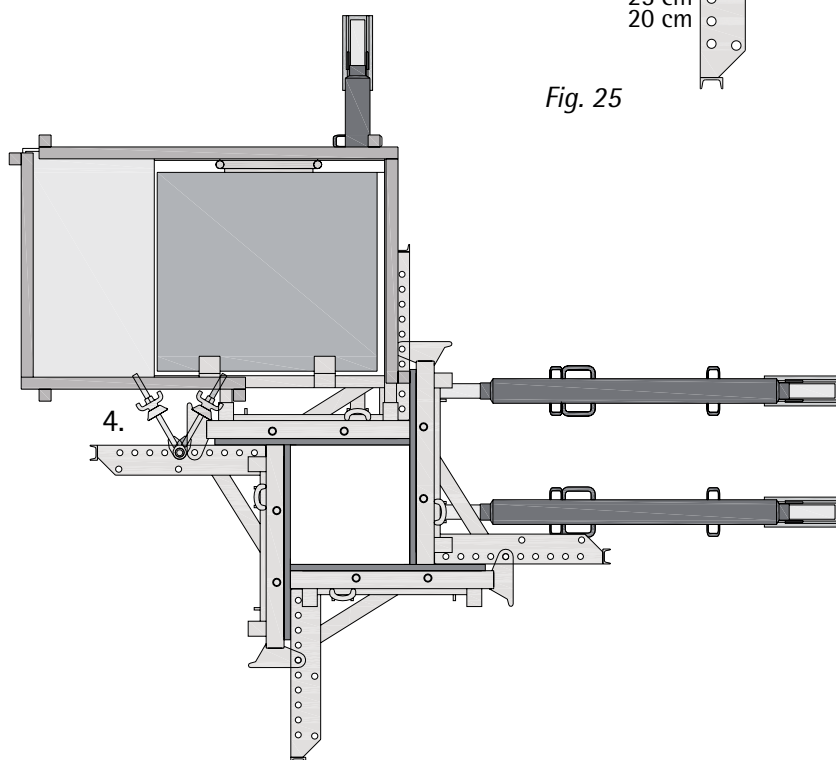

Fig. 26
Due to the tensioner's crooked positioning, this connection occurs overlapping outward by one hole (Fig. 26).
4. Swing tensioners in and brace with the Plate with ball-and-socket joint DW15 d.75 (Fig. 26).